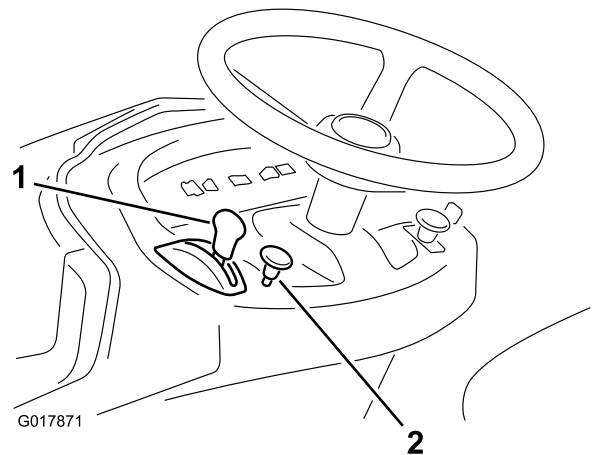

Figure 9
6. When starting a cold engine, pull out the choke knob (Figure 9).
8. After the engine starts, slowly shift the throttle control lever to the Fast position (Figure 9).
1. Move the throttle control lever to the Slow position (Figure 9).